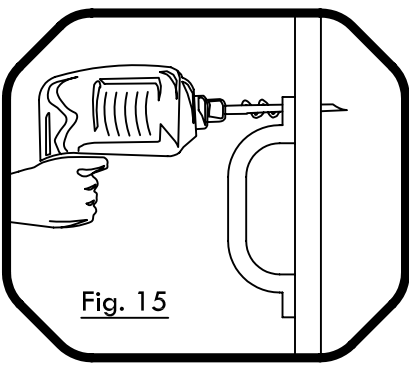

Fig. 15
- Step 4:** The two Wall Slats 'V' over the Deck Ladder and Rockwall will take Hand Grips. Center (1) Hand Grip on each wall slat, and using the holes in the Grips as a guide, drill 5/16" holes through the Wall Slats. (see Fig. 15)